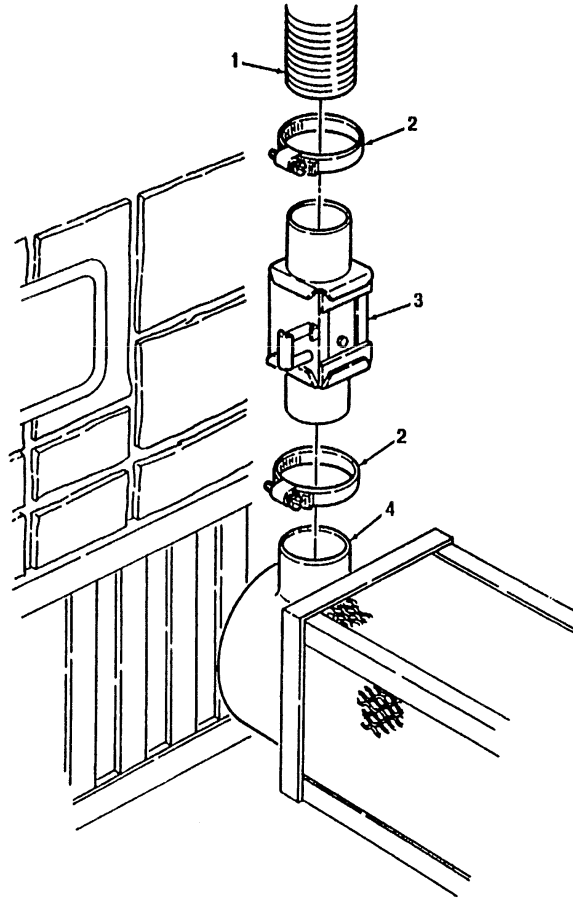
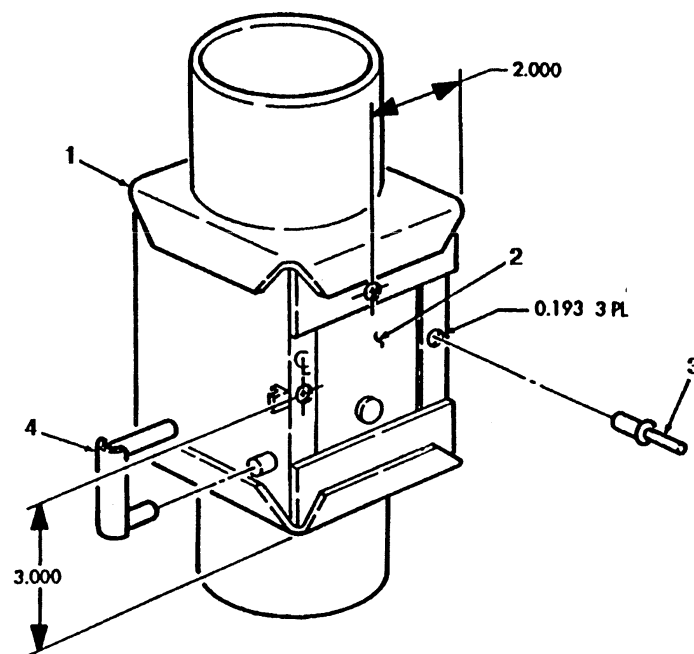

FIGURE 3-32
FIGURE 3-33
- (1) Loosen two clamps (2) and remove diverter assembly (3) from adapter (4) and flex duct (1). (see figure 3-32)
- (2) Locate, mark, and drill three 0.193" diameter holes through diverter assembly (1) and damper (2). (see figure 3-33)
- (3) Secure damper (2) to diverter assembly (1) using three NSN 5320-01-271-6357 rivets (3).
- (4) Cut handle assembly (4) from diverter assembly (1).
- (5) Install diverter assembly (3) on adapter (4) and flex duct (1) with two clamps (2). (see Figure 3-32)